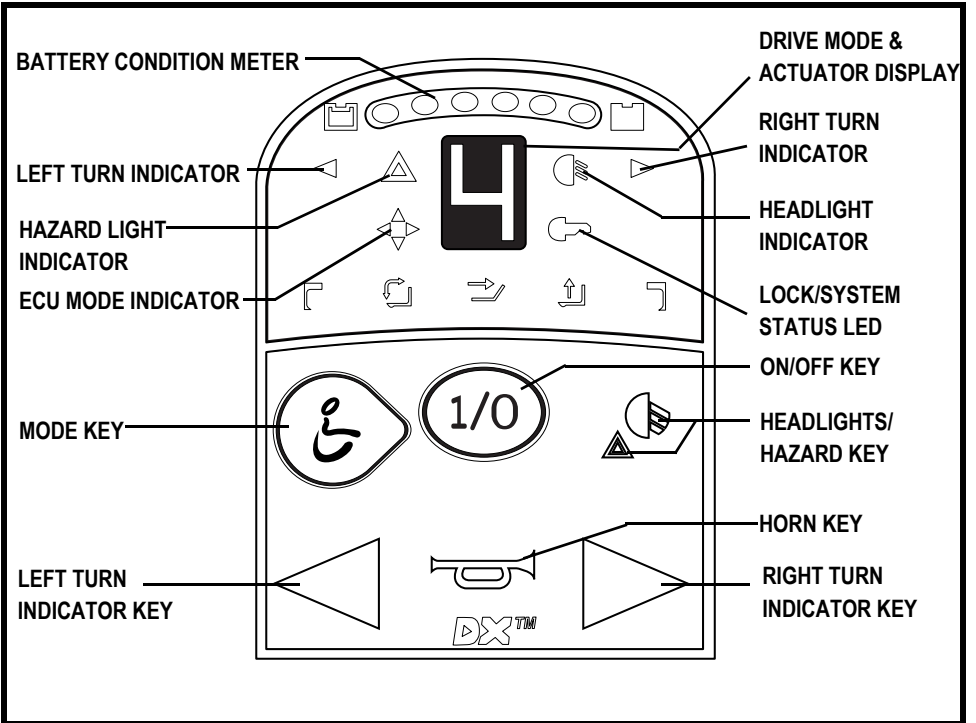

Figure 3. Dynamic G90 Keypad and Display
The keypad and display is located directly in front of the joystick. It contains keys and icons that you will use to control your power chair. See figure 3.
The lock/system status LED is normally on when the system is powered up, and off when the system is powered down. See figure 3. This light will flash green if there is an internal fault, or if an OONAPU fault has occurred. See “Out Of Neutral At Power Up.”
1. Swipe the magnetic key across the lock/system status LED. See figure 3. The system will beep and automatically turn off.